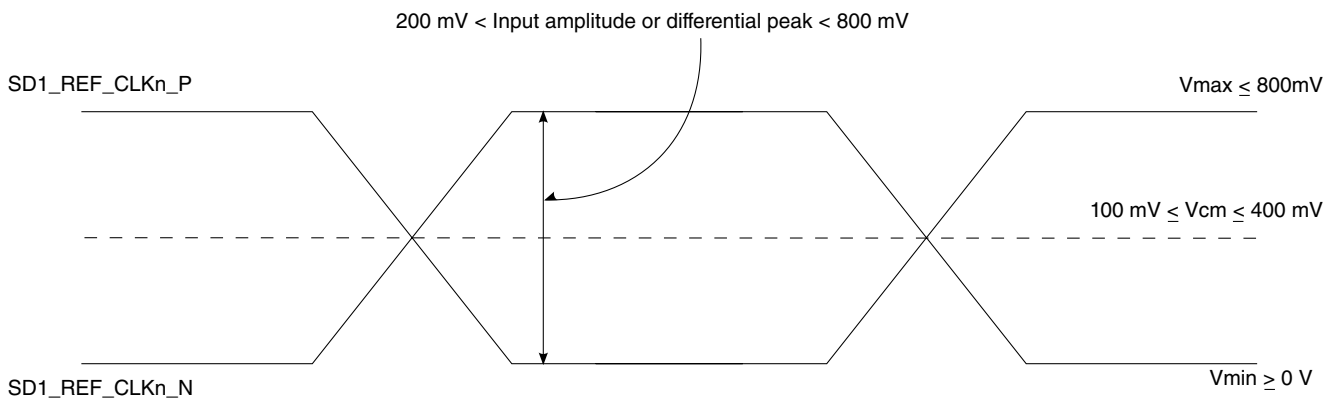

Figure 64. Differential reference clock input DC requirements (external DC-coupled)
- For an external DC-coupled connection, as described in SerDes reference clock receiver characteristics, the maximum average current requirements sets the requirement for average voltage (common mode voltage) as between 100 mV and 400 mV. Figure 64 shows the SerDes reference clock input requirement for DC-coupled connection scheme.